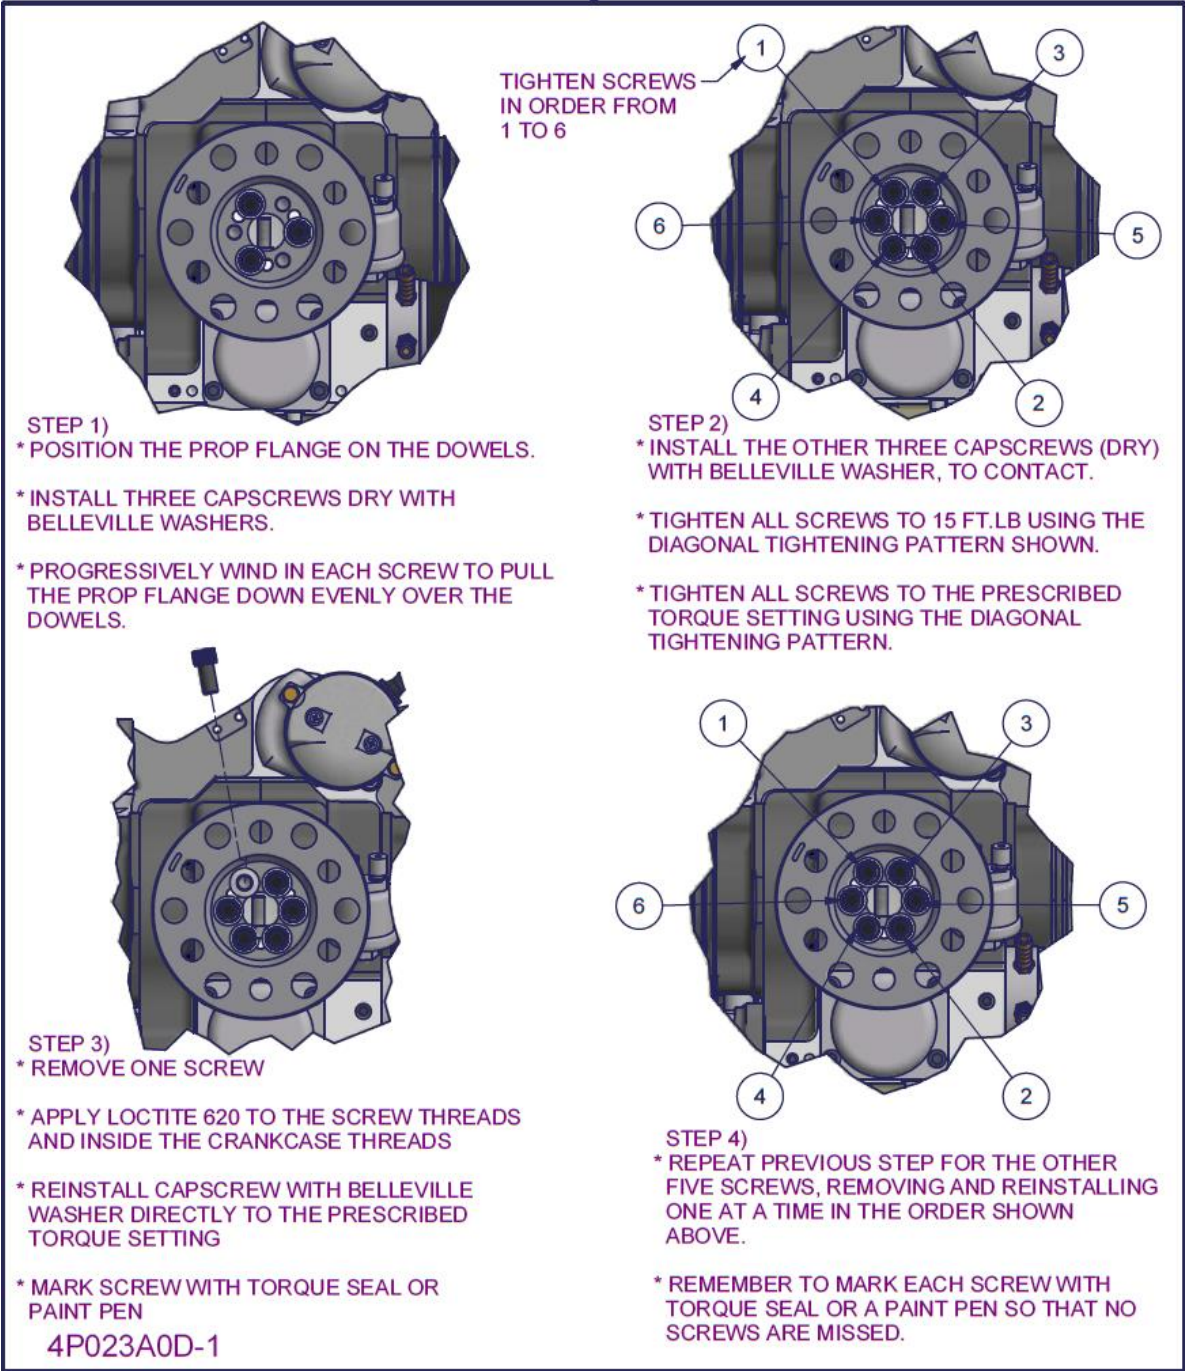

Figure 191 – Propeller flange installation method
- Refer to Figure 191 along with the following instructions for the propeller flange installation
- Remove, apply Loctite 620 and reinstall the other five screws **ONE AT A TIME** using the same technique in the order shown in Figure 191.